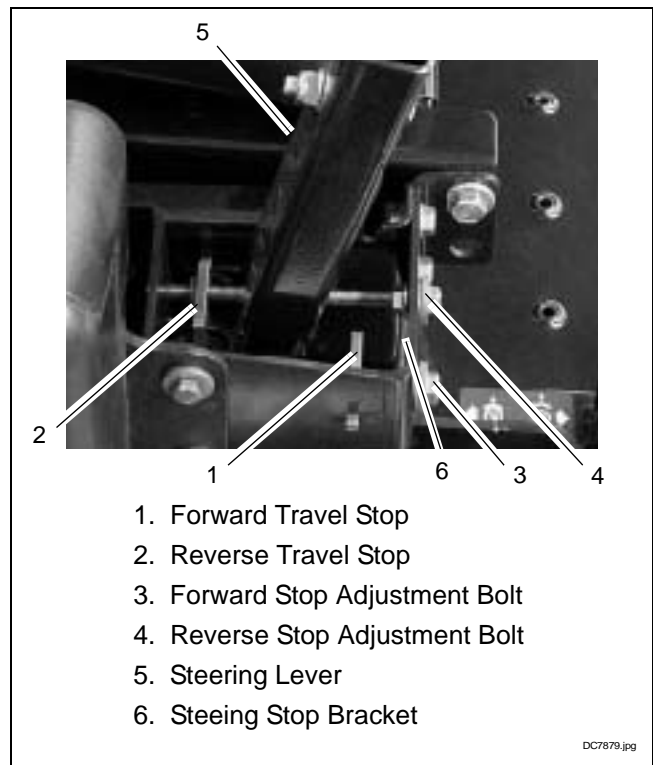
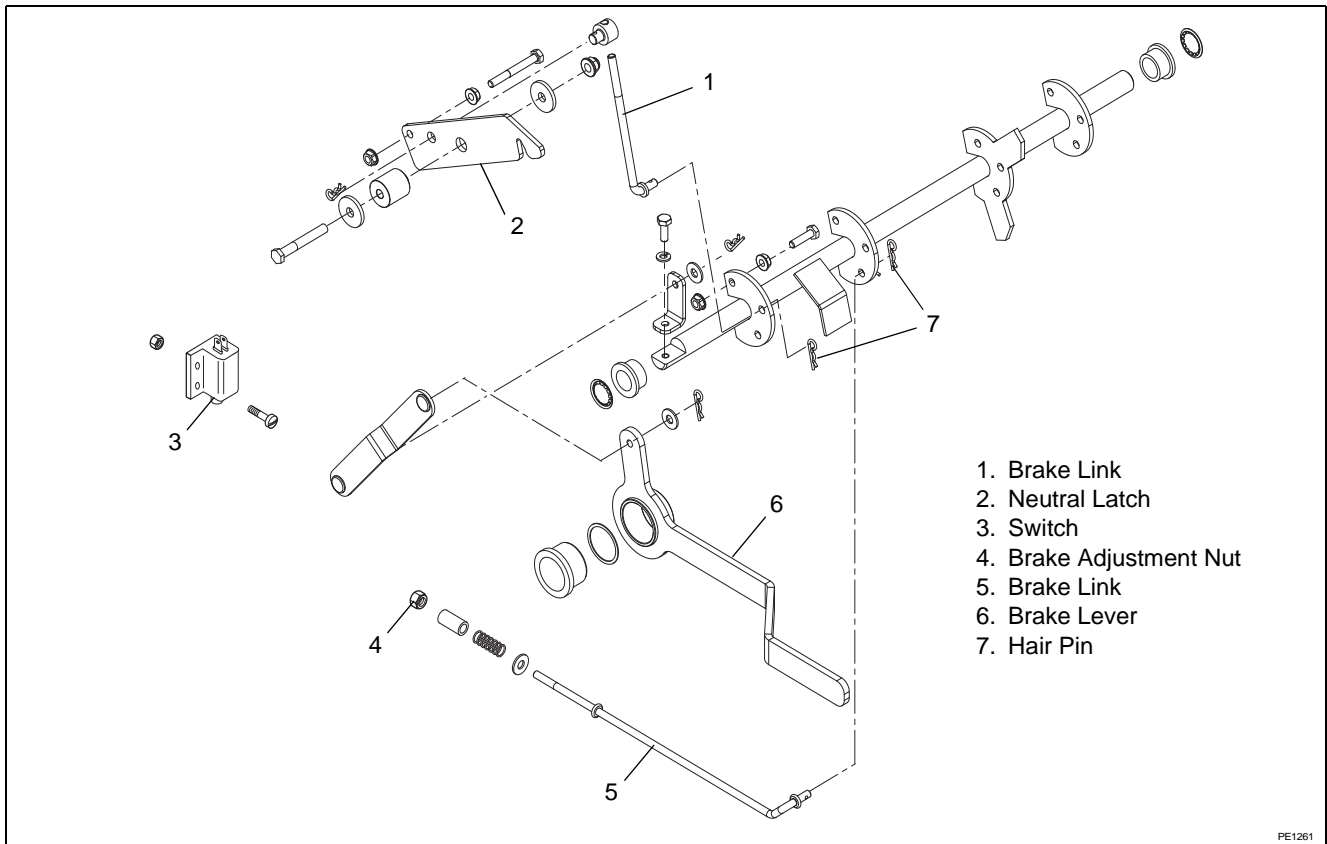

Figure 10
Figure 12
2. Disconnect parking brake by removing brake links from brake shaft weldment by removing hair pins (7, Figure 12).
3. Neutralize steering handles by engaging parking brake. When parking brake is engaged, steering handles should be positioned 1-3/4" from the front of the Steering Stop Bracket (Item 6, figure 10). If the position of the steering levers, when the parking brake is engaged, needs to be adjusted, loosen Parking Brake Pivot Bolt (Item 8, figure 12) and reposition Neutral Latch (Item 2, figure 12) in frame.
5. Disconnect wireform link (3) that connects the steering handle to the transmission.
6. Remove the steering rod (2).
10. Hold the linkage (5) in place and tighten the locking bolt (4).
13. Reinstall the steering rod (2) and carefully reconnect wireform link (3), making sure transmission and handles stay in neutral position. Adjust trunnion or wireform link as necessary.
14. Reconnect parking brake links (7, Figure 12).
1. Turn the nut (4, Figure 12) clockwise or counterclockwise as needed to properly position the brake rod (5).